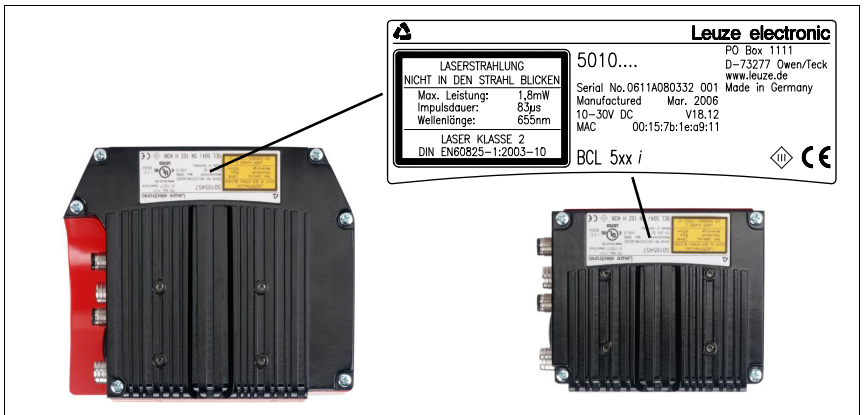

Figure 6.1: Device name plate BCL 504*i*
- The black areas in figure 6.1 are the housing base. The best read results are obtained when: